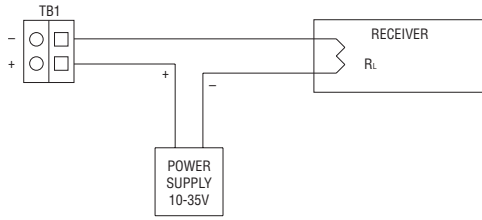
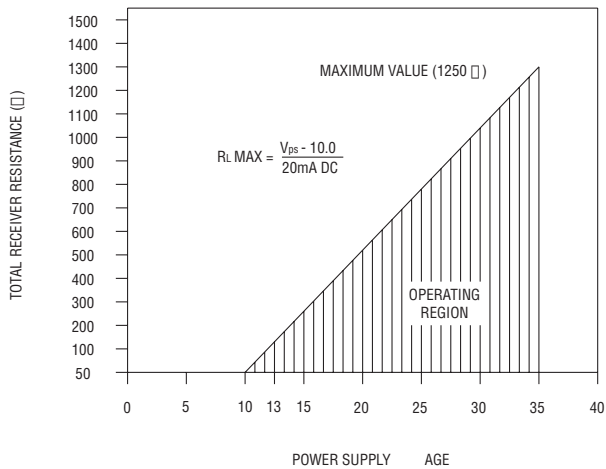

Figure 1
Figure 2
An external power supply delivering 10 to 35 VDC with a minimum current capability of 40 milliamps must be used to power the control loop in which the Magnesense® transmitter is connected. Refer to Fig. 1 for connection of the power supply, transmitter and receiver. The range of appropriate receiver load resistances (RL) for the power supply voltage available is given by the formula and graph in Fig. 2. Shielded two wire cable is recommended for control loop wiring and the negative side of the loop may be grounded if desired. Note also that the receiver may be connected in either the negative or positive side of the loop, whichever is most convenient. Should polarity of the transmitter or receiver be inadvertently reversed, the loop will not function properly but no damage will be done to the transmitter.